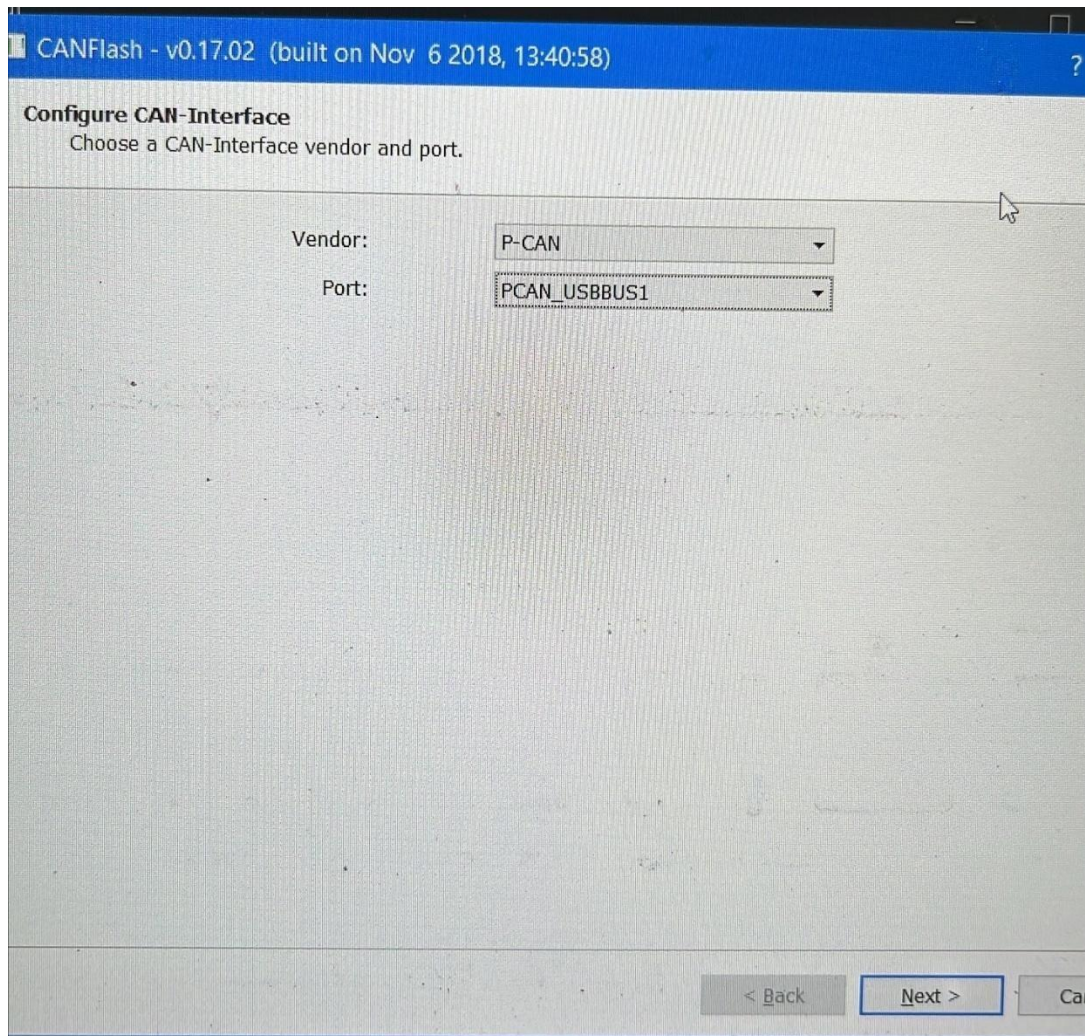

Figure 3: CANFlash PCAN setting
18. Once CANFlash is open, select **P-CAN** under the Vendor drop-down menu. Select **PCAN\_USBBUS1** under the Port drop-down menu (see figure 3 below). It’s important to ensure the physical connection to the laptop matches the same port as dictated by the CANFlash setup. Click **Next** when complete.